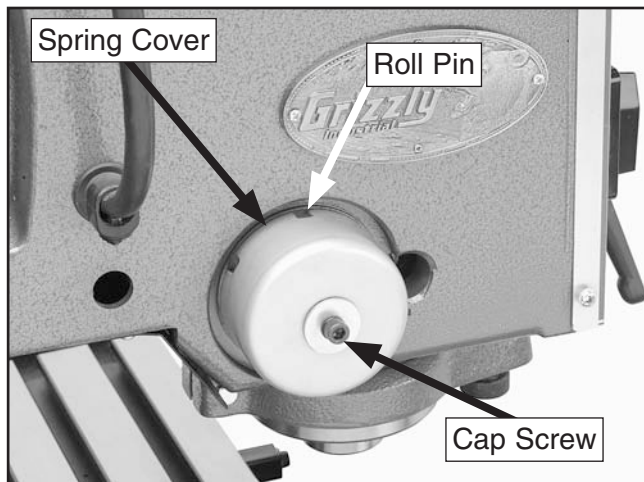

Figure 71. Spring cover.
3. Loosen the cap screw knob two or three turns (**Figure 71**).